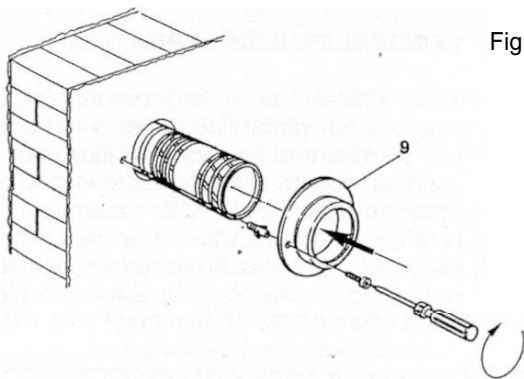

Fig. 37
- 5.7.10 Fit terminal cover plate if required (Fig. 37).